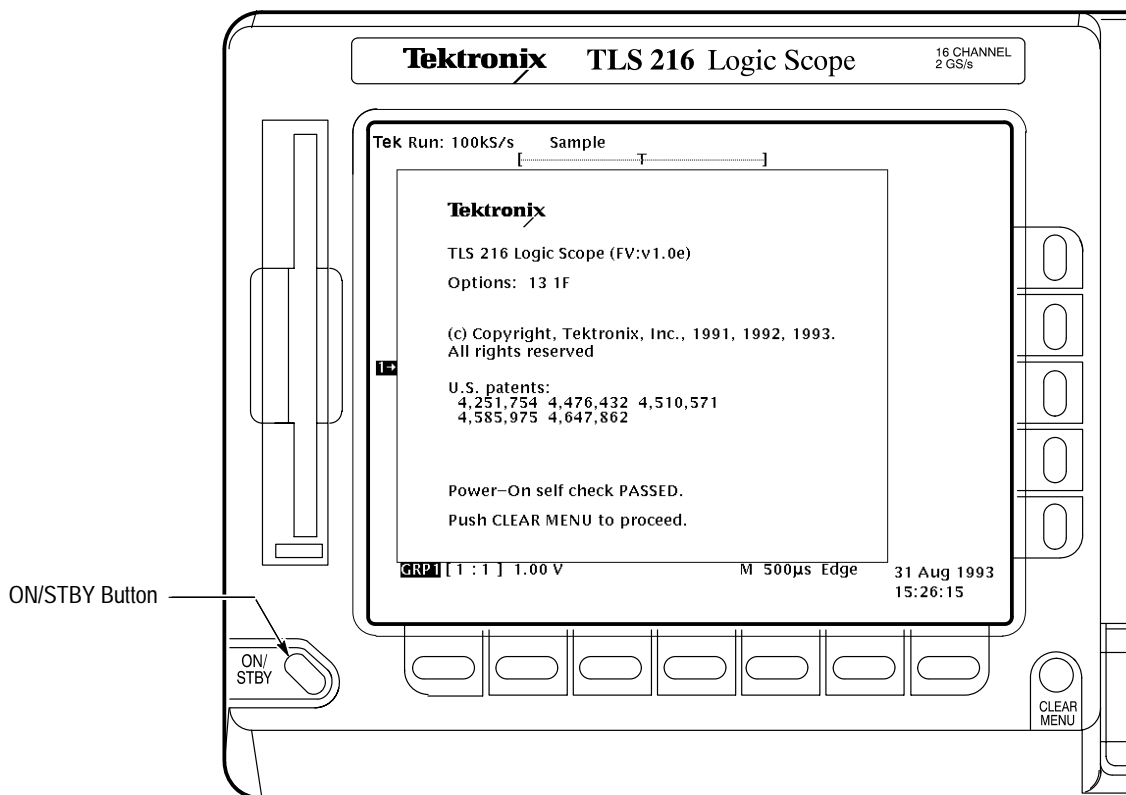

Figure 1-2: ON/STBY Button
2. If the logic scope is not powered on (the screen is blank), press the front-panel **ON/STBY** button to toggle it on. (See Figure 1-2.)